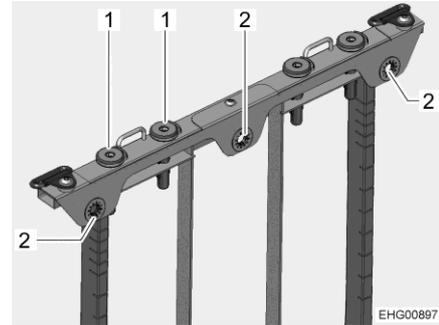

Fig. 12 Adjusting the headrest
- Pull the cushion in the shoulder area firmly forwards to release the cushion from the three clip connections (Fig. 12,2).
- Pull the headrest up or push it down until it engages in the desired locking position in the guide sleeves (Fig. 12,1).